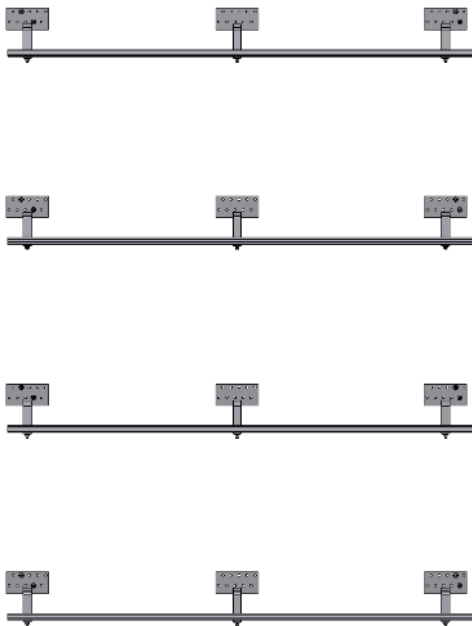

Figure 119: Carrier rail, fitted
- Start with the top or the bottom carrier rail. Align the screws with the fixing points (e.g. roof hooks) and secure them. See Figure 119.